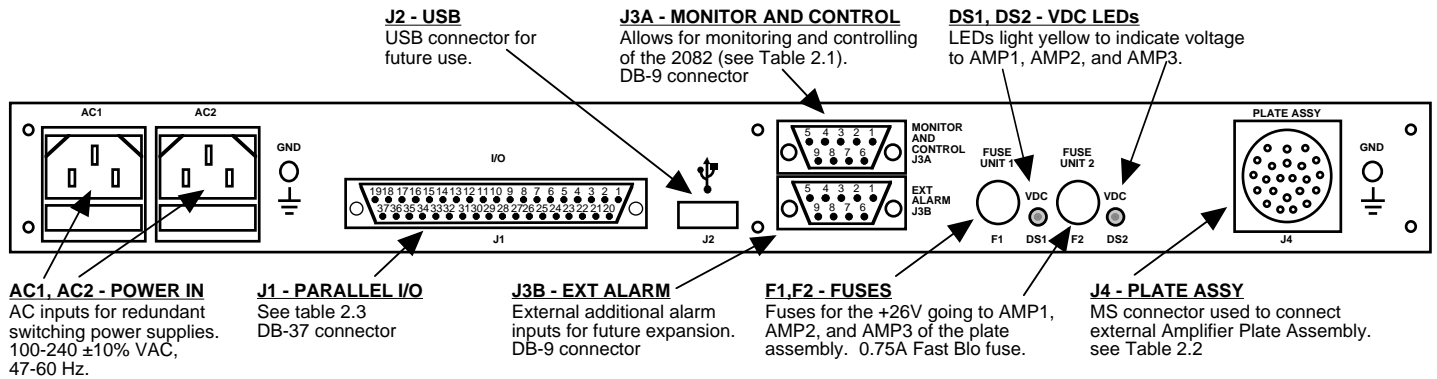

FIGURE 2.1 2082-141 Rear Panel I/O's
Figure 2.1 shows the input and output connectors on the rear panel.
1. Connect external Amplifier Plate Assembly to 2082 via MS connector, J4.(Figure 2.1).
2. Connect two 100-240 \pm 10% VAC, 47 - 63 Hz power cords to AC1 and AC2 on the back panel (Figure 2.1).
4. Check that DS1 and DS2 are lit. If not, then either a fuse is missing or blown in F1 or F2, respectively (Figure 2.1).